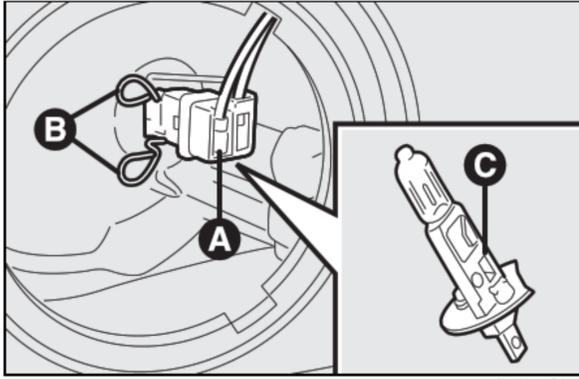

fig. 22
- disconnect the electric connector **A-fig. 22**;
- release the bulb catch **B-fig. 22**;
- remove the bulb **C-fig. 22** and replace it;